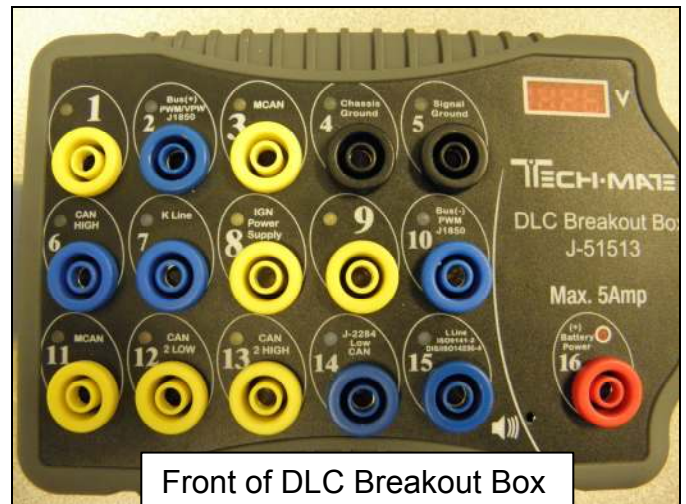

Figure 1
- Plug the DLC Breakout Box into the vehicle DLC connector and perform all voltage, resistance and continuity testing directly from the provided “pin-outs” shows in Figure 1 below.